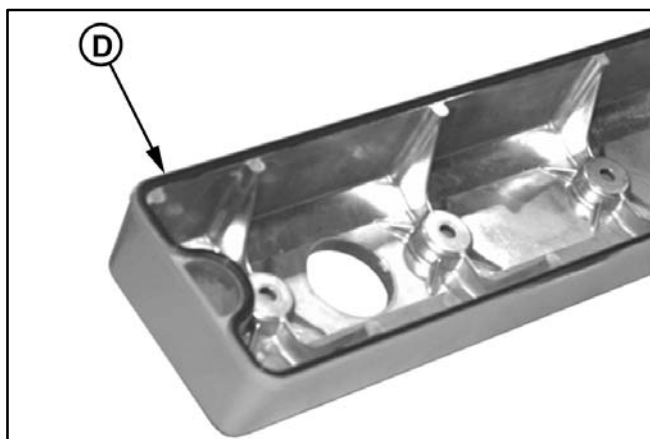

FIGURE 7-9. ROCKER ARM COVER
1. Remove the rocker arm cover (Figure 7-9).
7. Reinstall the rocker arm cover. Replace cover sealing ring (D), Figure 7-9, if necessary.